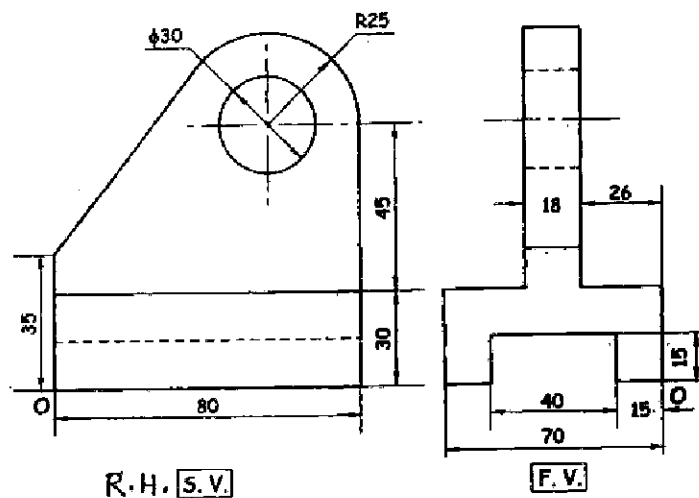

Figure 5
7. The figure 5 shows FV and RHSV of a machine part. Draw its isometric view by using natural scale and show overall dimensions.